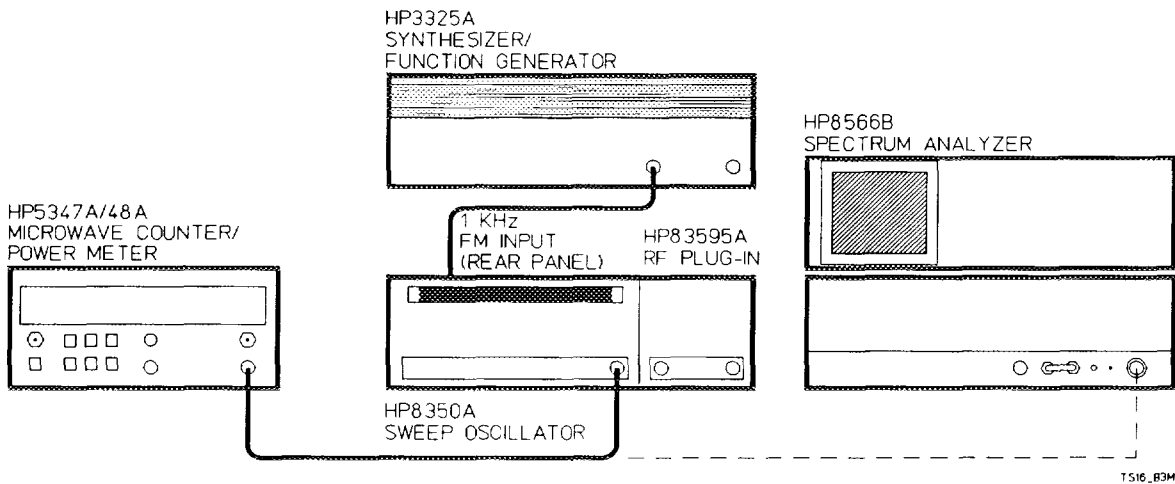

Figure 4-10. FM Tolerance Test Setup
1. Connect the equipment as shown in *Figure 4-10*.
The test source shown in Figure 4-10 is commonly available equipment, but is specified to ± 7 MHz FM deviation, or 14 MHz p-p at a 1 kHz modulating frequency. It may produce a test signal in excess of this, but its performance is not specified beyond 14 MHz p-p. For larger deviations with test equipment specifications, the HP 8780A Vector Signal Generator may be substituted.